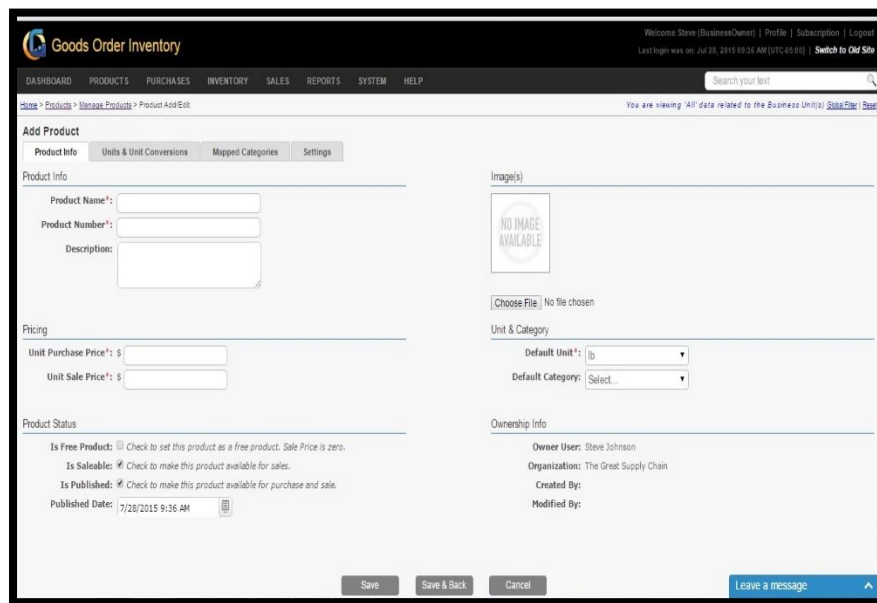

FIGURE 2.1.3
- Click on the Select button; after selecting the organization, you will be redirected to the Product Info page as shown in (Figure 2.1.3).